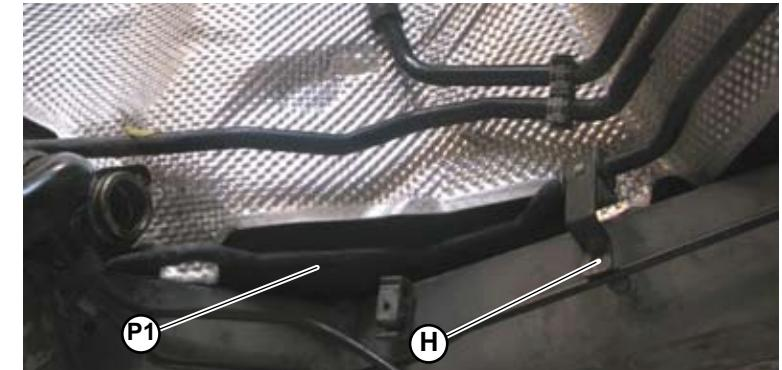

Fig.28
7. Loosen the screw (H-Fig.28) fastening the mounting bracket on the front part of the **P1** delivery pipe to the chassis.